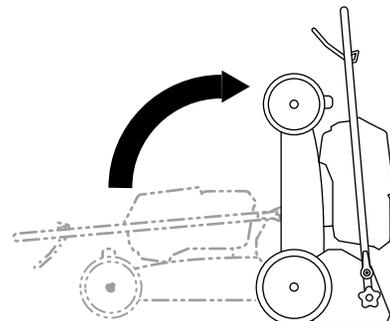

Figure 15
5. Fold the handle forward to the fully forward position as shown in Figure 15.
6. Lift the front of the machine by the handle and move it into a storage space (Figure 15).